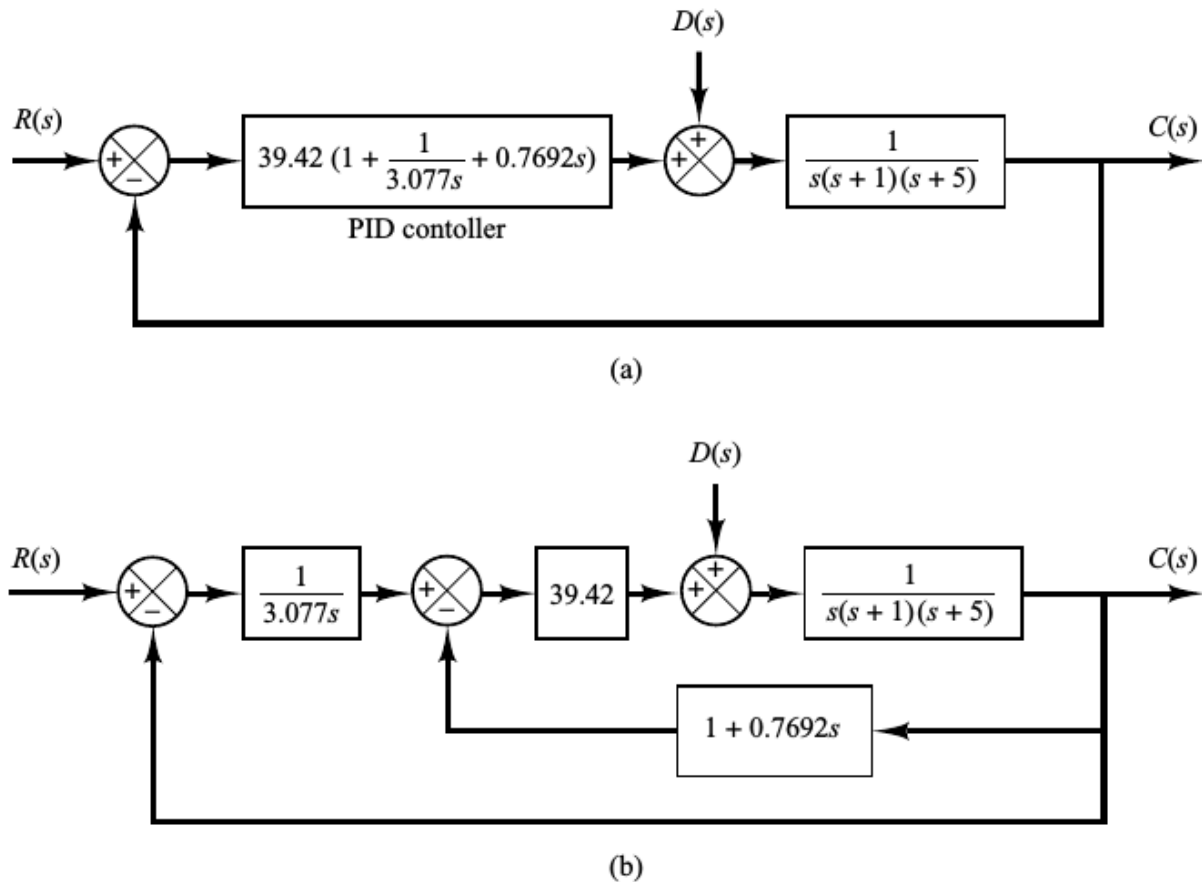

Figure 8-73
4) B-8-4. Consider the systems shown in Figures 8-73(a) and (b). The system shown in Figure 8-73(a) is the system designed in Example 8-1. The response to the unit-step reference input in the absence of the disturbance input is shown in Figure 8-10. The system shown in Figure 8-73(b) is the I-PD-controlled system using the same K_p , T_i , and T_d as the system shown in Figure 8-73(a). Obtain the response of the I-PD-controlled
5) B-8-5. Referring to Problem B-8-4, obtain the response of the PID-controlled system shown in Figure 8-73(a) to the unit-step disturbance input. Show that for the disturbance input, the responses of the PID-controlled system shown in Figure 8-73(a) and of the I-PD-controlled system shown in Figure 8-73(b) are exactly the same. [When considering $D(s)$ to be the input, assume that the reference input $R(s)$ is zero, and vice versa.] Also, compare the closed-loop transfer function $C(s)/R(s)$ of both systems.